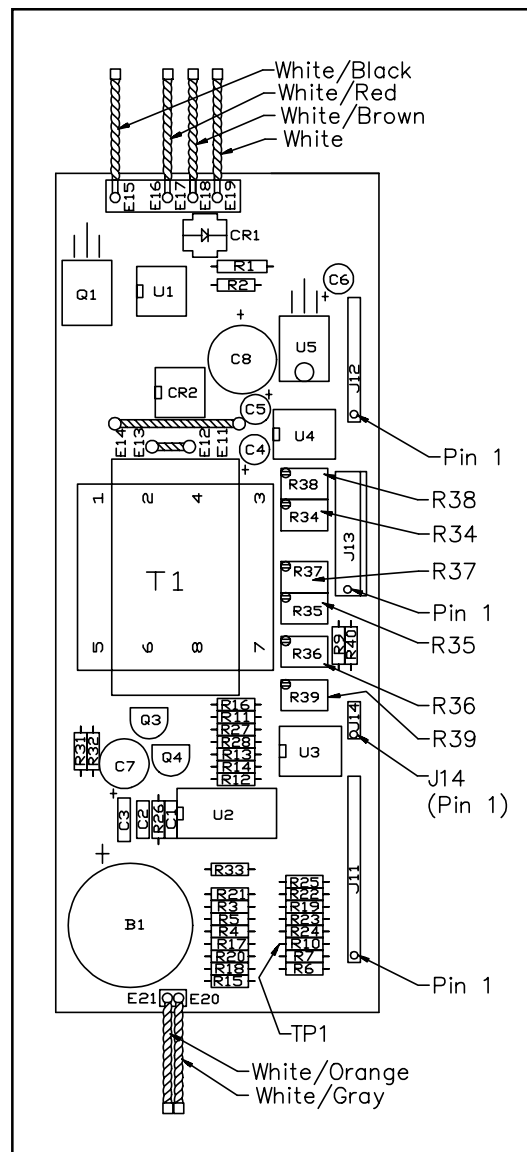

Figure 8. HS 150 PC Board
2. Disconnect the two White varglass sensor leads from the White/Orange and White/Gray leads (refer to Figure 8).
4. Move the shorting block on J14 pins 2 and 3 to J14 pins 1 and 2 (refer to Figure 8).
7. Monitor the voltage at TP1 (refer to Figure 8) with respect to the White/Orange lead. This voltage will be called V3.